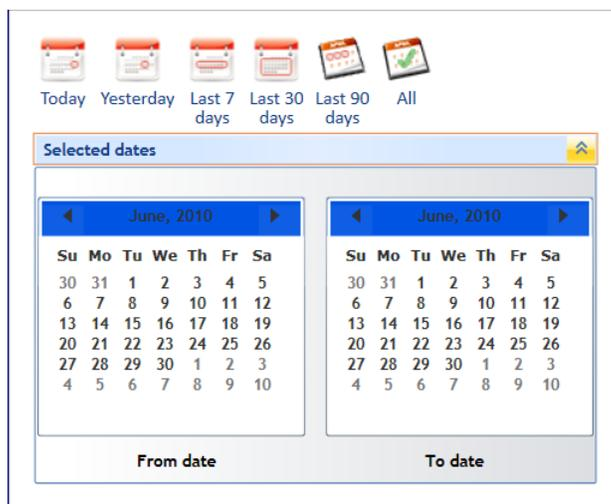

Figure 17 – Filter Dates Options
- Select from several fixed filter options (Figure 17).